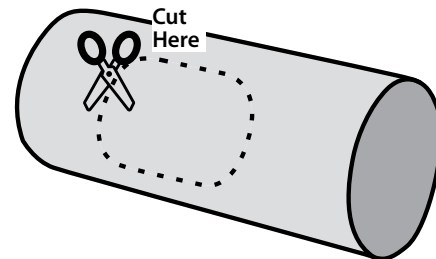
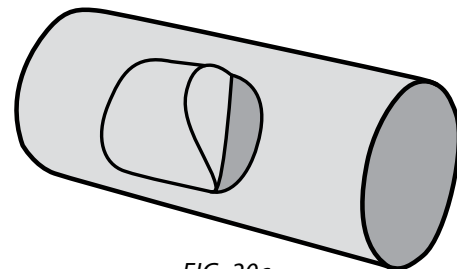

FIG. 20b
FIG. 20c
- Drill a pilot hole using a stepped drill bit to create a starting place for cutting. Cut out the shape that you drew [FIG. 20b] and peel the sheet metal back as you cut [FIG. 20c].